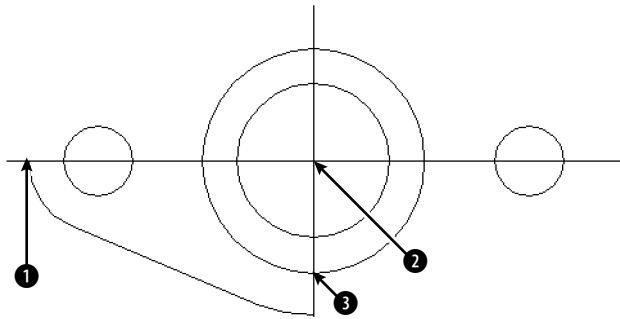

**Figure 10-1:** A partially completed mounting plate.
3. Choose Erase on the Modify toolbar. At the `Select objects:` prompt, pick the line and two arcs to the bottom-right of the two centerlines and then press Enter. The resulting model should look like Figure 10-1.
5. At the `Specify first point of mirror line:` prompt, pick intersection ① in Figure 10-1. At the `Specify second point of mirror line:` prompt, pick intersection ②.